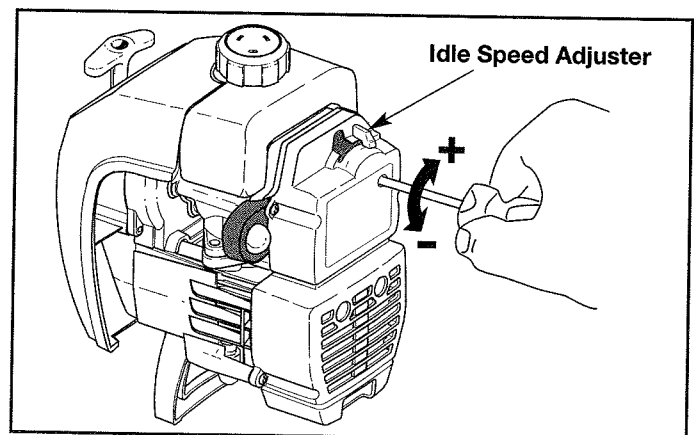

Fig. 28
2. Release the throttle trigger and let the engine idle. If the engine stops, insert a small phillips or flat blade screwdriver into the hole in the air filter/muffler cover (Fig. 28). Turn the idle speed adjuster in, clockwise, 1/8 of a turn at a time (as needed) until the engine idles smoothly. See Specifications for idle RPM.